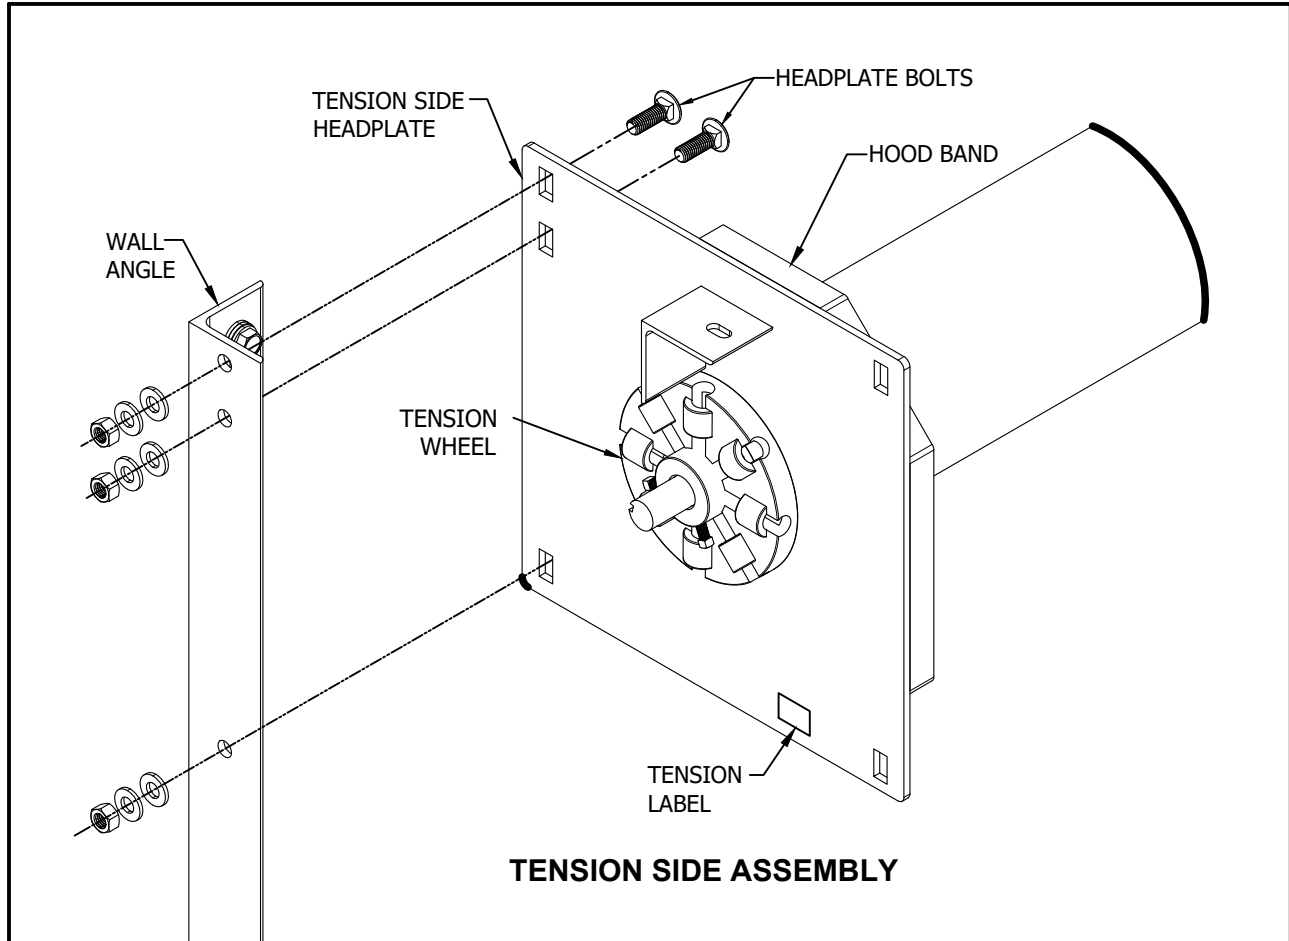

FIGURE 15
- a. Carefully secure barrel to hoisting equipment and raise into position at top of wall angles. Attach headplate brackets to INSIDE of wall angles as shown in Figure 15.